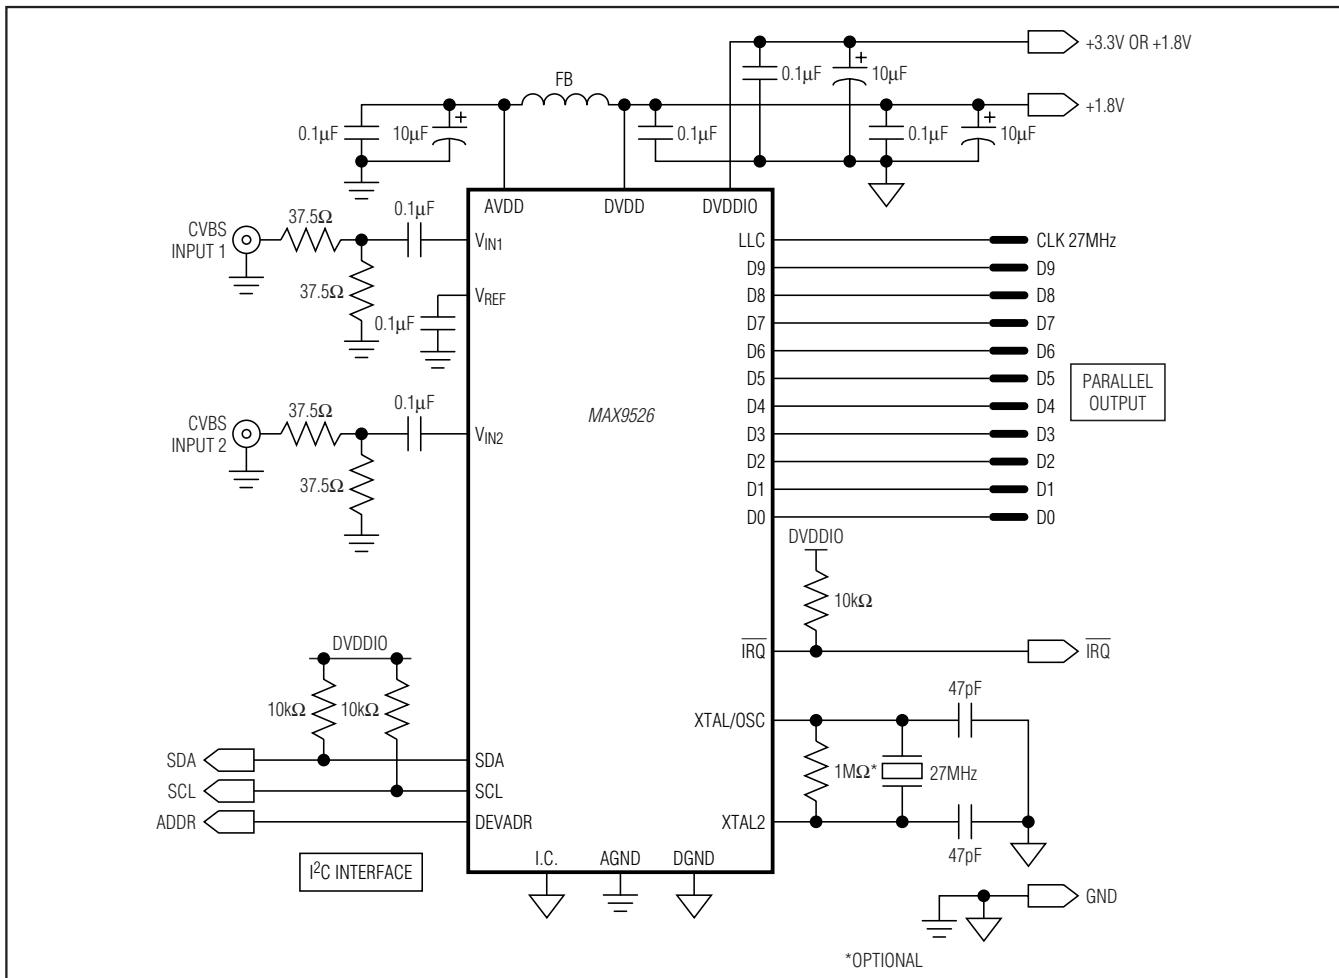

Figure 8. MAX9526 Typical Application Circuit with Additional Supply Isolation
For systems where additional power-supply isolation is required, the circuit shown in Figure 8 can be used. Additional supply decoupling is added and analog power (AVDD) isolation is increased with the use of a ferrite bead (FB). The analog ground connection (AGND) should be connected to a separate ground plane that has a small bridge to the main ground plane of the system. The video input termination (V_{IN1}/V_{IN2}), video reference (VREF) decoupling, and AVDD supply decoupling should also be connected to the AGND ground plane.